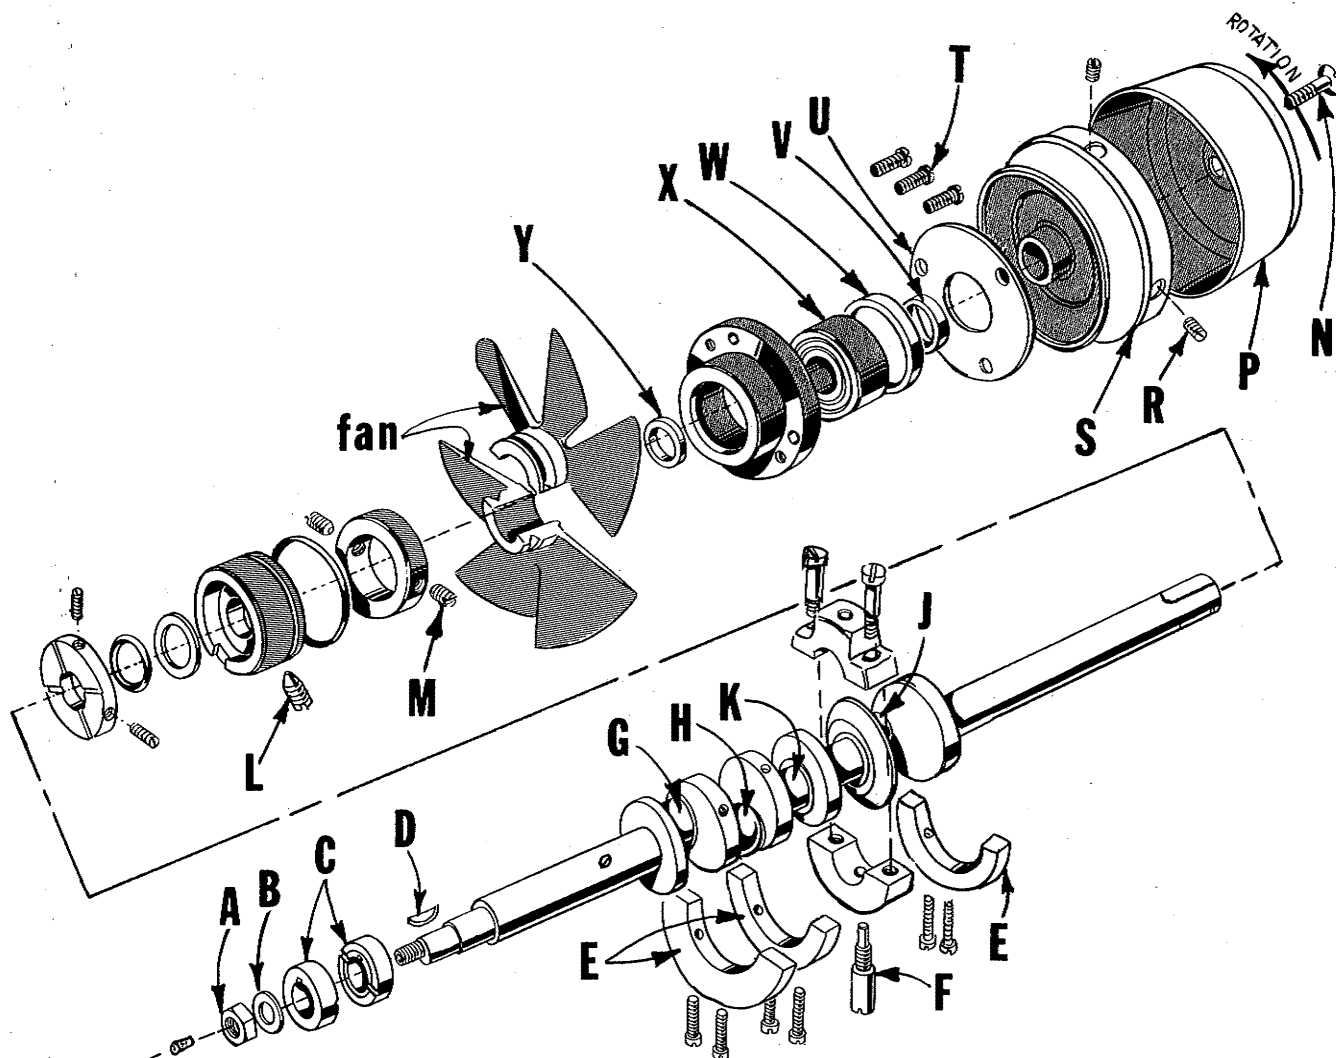
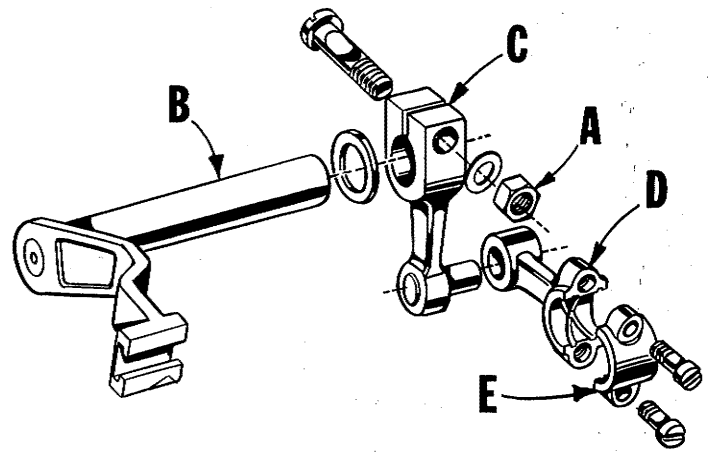

Fig. 21
Fig. 22
3. Remove feed eccentric nut (A, Fig. 21) and washer (B), and, with the aid of the eccentric extractor, slip off the eccentrics (C).
4. Remove key (D).
5. Remove three counterweights (E). Identify these counterweights so that they will be re-assembled in the proper places.
6. Remove screw (F) which holds crankshaft split bearing. This screw is reached through bottom of bed casting.
8. Loosen clamp nut (A, Fig. 22) which holds upper knife driving arm (B). Access to clamp nut is through top cover. Draw driving arm to the left until upper knife driving lever (C) and connecting rod (D) drop, allowing removal of bearing cap (E). This is at bearing point (K, Fig. 21) on crank shaft. Observe same precautions when re-assembling cap as described in 7 above.
9. Remove screw (L, Fig. 21) which holds inner right crankshaft bearing. This screw is reached through bottom of bed casting.
10. Loosen two screws (M) in fan collar; remove both halves of cooling fan.
11. Remove screw (N); take off pulley cap (P).
12. Loosen two screws (R); remove pulley (S).
13. Remove three screws (T); take off bearing retaining plate (U); also, spacer collars (V) and (W) may be removed at this time.
15. If necessary to replace ball bearing (X), it should be pressed off shaft on an arbor press. In replacing bearing it must be pressed on carefully until it seats against ground thrust washer (Y).